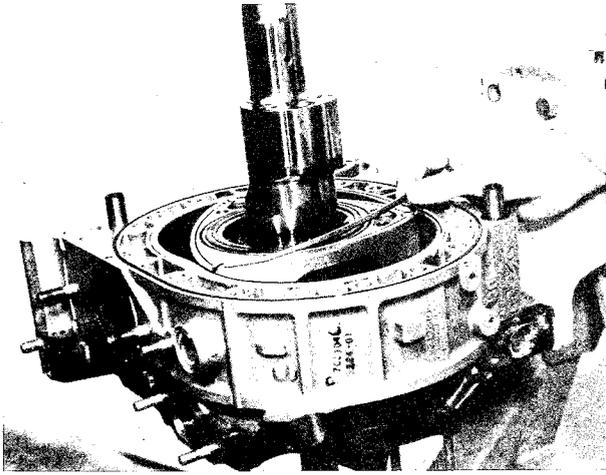

Fig. 1-67 Installing side seal
3. Install the side seal springs and side seals into their respective grooves, as shown in Fig. 1-67.